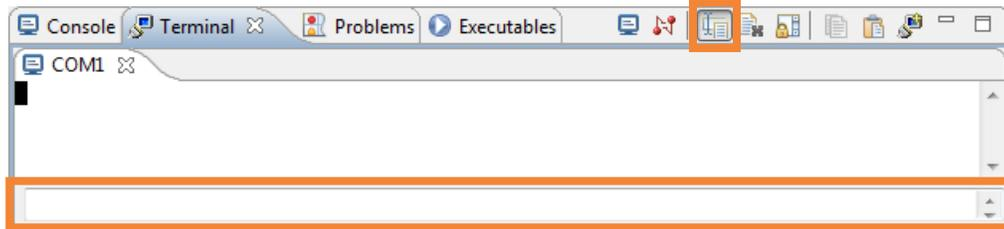

Figure 3.46. Terminal View
5. (Optional) Click the **Toggle Command Input** icon that adds an edit box to enter text (Figure 3.46).